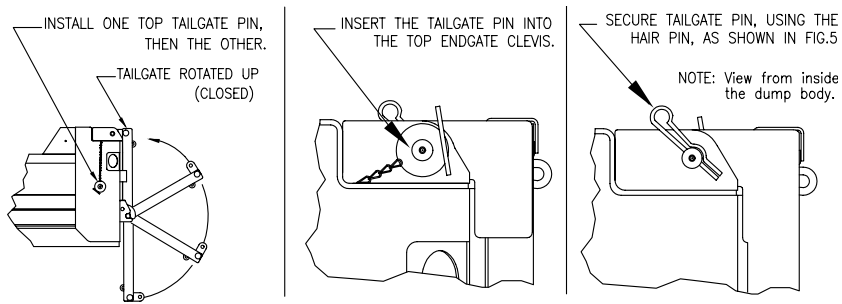

FIGURE 5
- ~ Secure tailgate pin, using the hair pin, as shown in Figure 5.